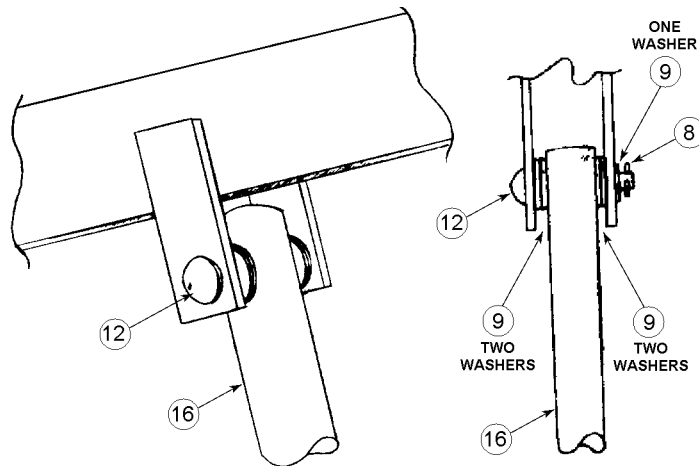

Figure 4
Step #5: Next, connect the cylinder (item 16) to the overhead assembly: Align ram eye with holes in boom clevis plates and insert a greased clevis pin (item 12) with four 5/8" washers (item 9). Place another washer (item 9) on outer end of clevis pin and drive a 3/16" roll pin (item 8) into the hole at the end of clevis pin. See figure 4.